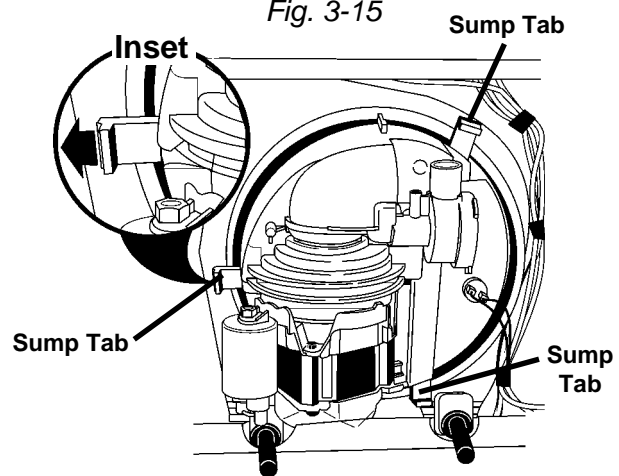

Fig. 3-16
5. Remove the three (3) sump tabs that secure the sump assembly to the dishwasher tub. (Fig. 3-16, Inset)